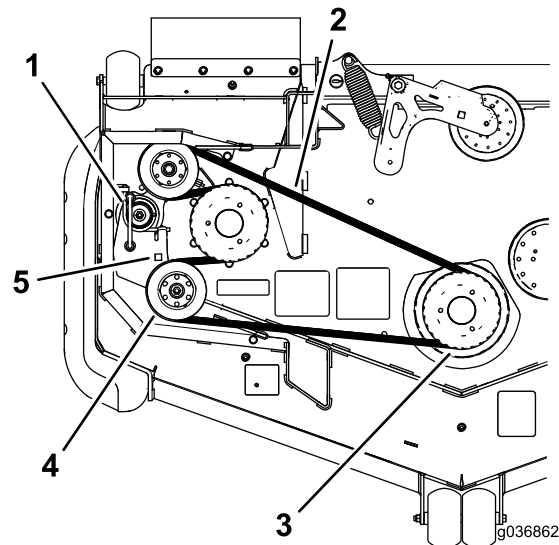

**Figure 87**
9. Install the belt covers (Figure 87).